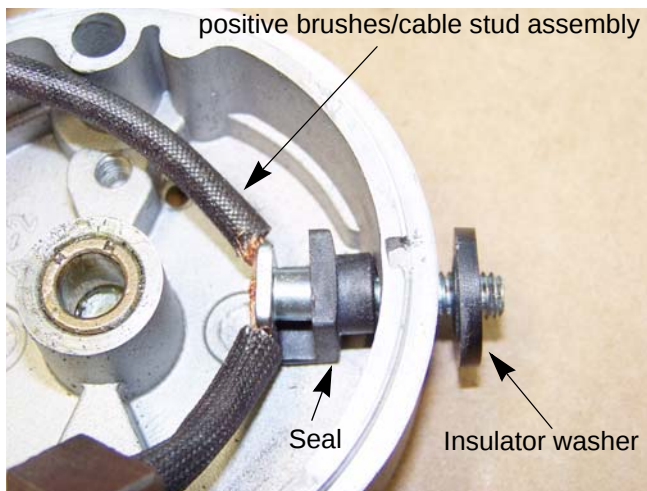

Figure 6.28
14. Install the insulator washer. See Figure 6.28.